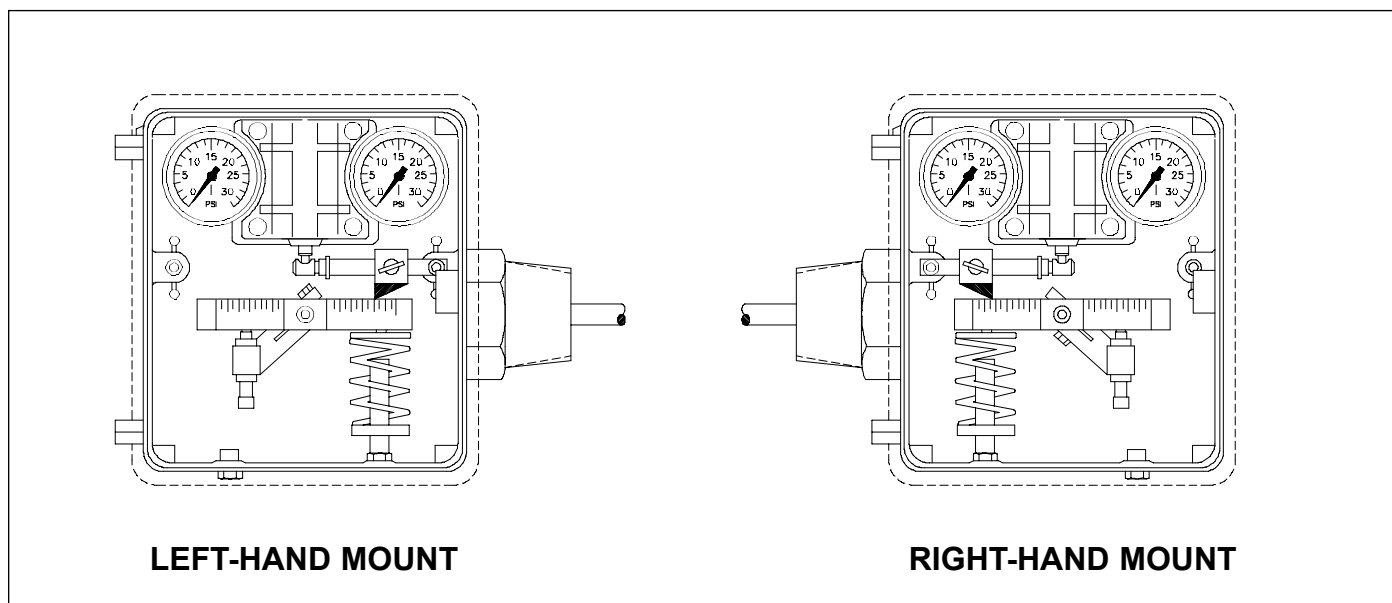

Figure 5. Controller Mounting
7. Determine mounting orientation (See Figure 5).
The Series 3200 Liquid Level Controller can be set up as right-hand mount or left-hand mount. The orientation of the level controller mounted to the vessel, while facing the front of the controller, determines the mounting style (Figure 5). If the controller is to be mounted on the right side of the